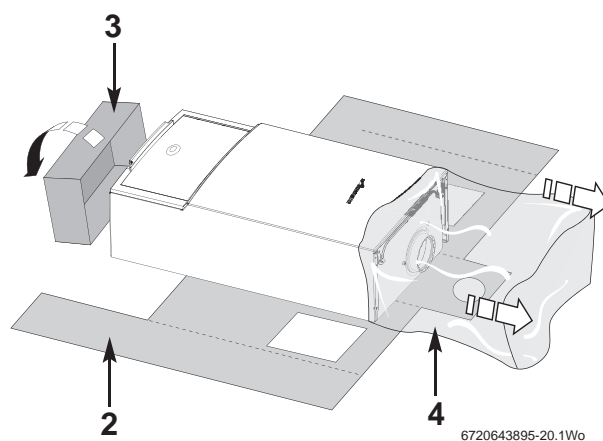
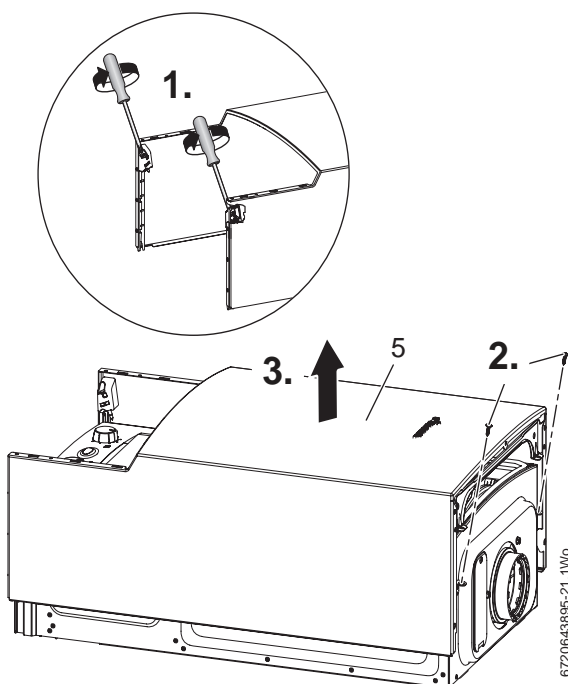

Fig. 28 Remove packaging
Fig. 29 Outer case screw removal
► Remove outer carton (1) and place safely away from the working area.
► With the outer packaging removed and the inner sleeve (2) still in place gently lay the boiler on its back.
► The boiler will lie at an angle to the floor to allow the boiler outer casing (5) to be removed.
► The inner sleeve (2) opens as shown in figure 28.
► Remove the protective wrapping (4).
2. Undo the two screws at the top (see fig. 29).
3. Remove the outer case (5).
► Remove any packaging within the boiler and the packaging base (3).